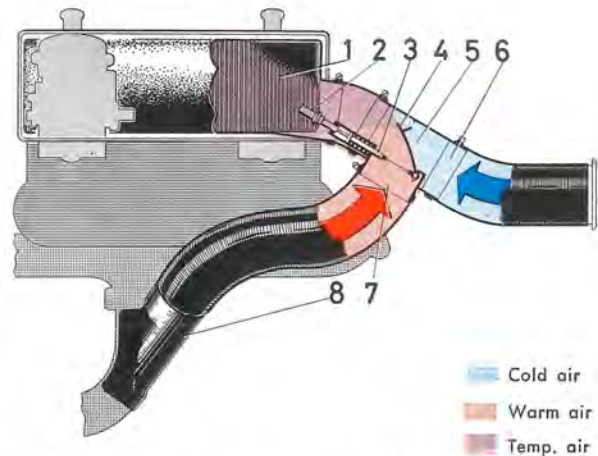

Fig. 2-69. Constant air temp. device
The engine is fitted with a constant air temp. device, see Fig. 2-69. (Not, however, on vehicles with right-hand drive.) This device consists of a flap housing (5), a hose (6) for cold air and a heat-resistant hose (7)